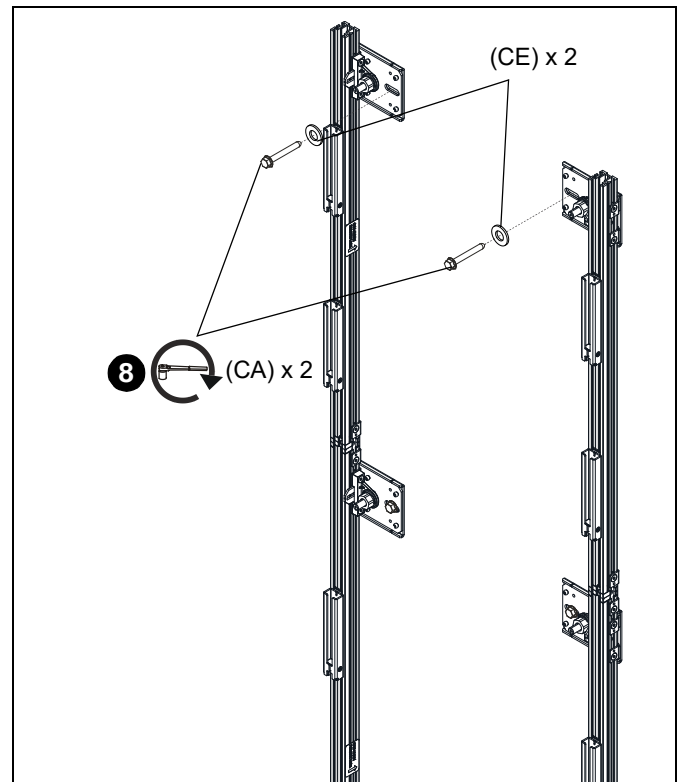

Figure 23
2. Remove socket head cap screw and loosen side screws at bottom of extender uprights (F and G) using 1/8" hex key. (See Figure 23)
3. Insert extender uprights (F and G) into T-slots on starter uprights (A and B). (See Figure 23)
4. Tighten side screws and re-install removed socket head cap screw through starter mount extrusion. (See Figure 23)
8. Use 5/16 x 2 1/2" hex head cap screws (CA) and 5/16" washers (CE) to secure extender uprights to wall. (See Figure 23)